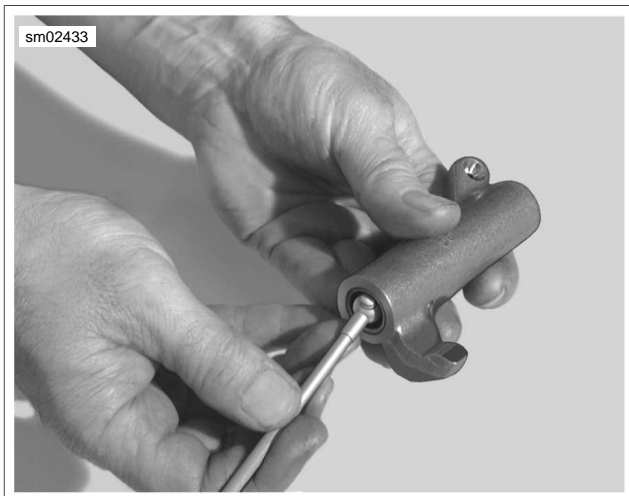

Figure 3-78. Checking Bushings
- a. See Figure 3-78. Measure the inside diameter of the rocker arm bushing.